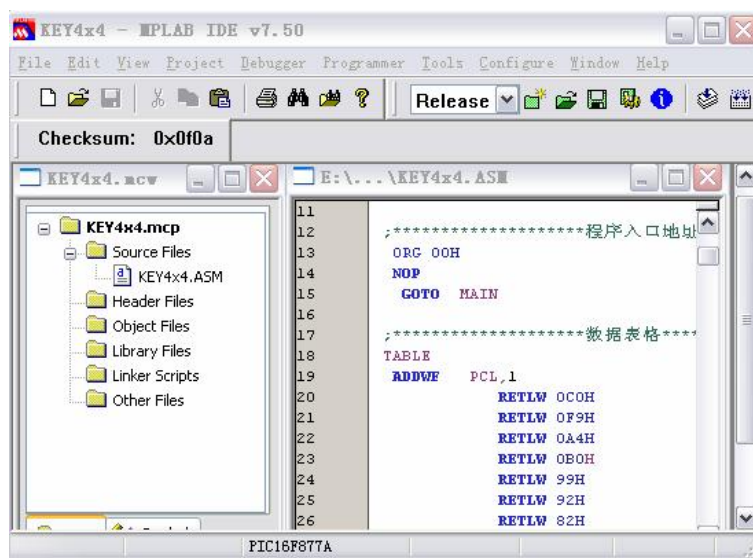

Figure 6-1 MPLAB interface after editing source code and establishing the project
- 2) In accordance with the method introduced in 2.2.1, establish a new engineering project, and complete the settings as below: select PIC16F877A in the second step as the target chip; select "Microchip MPASM Toosuite" as the compiling tool in the third step; select "KEY4x4" as the new project name (the suffix can be omitted), and the directory for saving the project is the same as that of the source. After editing the source and establishing the project, MPLAB interface will be shown as Figure 6-1.